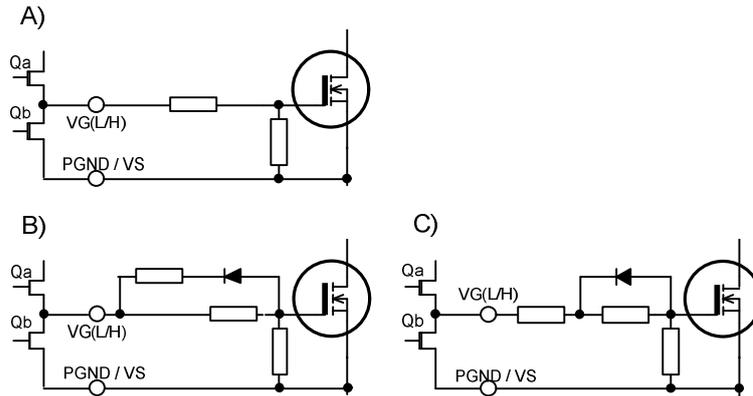

Fig.18. LLC gate drive connection
General gate drive connection is shown in Fig.18(A). Single resistor drive is enough in 100-200kHz operation with Qg 20-30nC MOSFET. When using large Qg MOSFET, Sinking diode is effective to speed up turn off as shown in Fig.18 (B),(C).